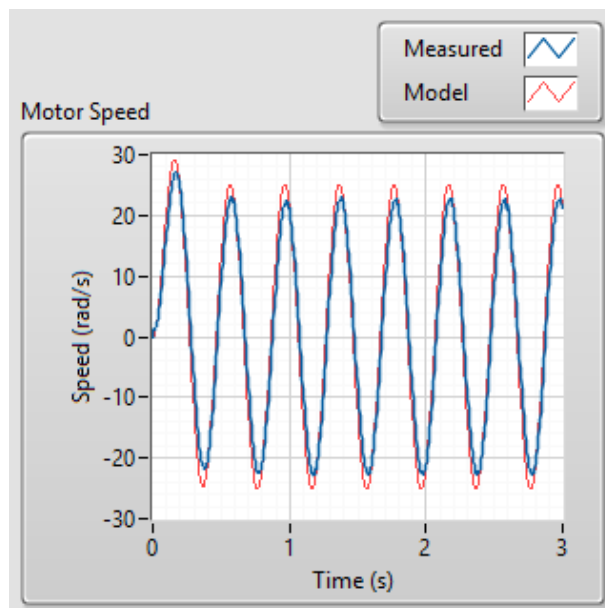

Figure 10: Sample modeled and measured responses of the DC motor
15. To validate the derived model parameters, modify the **System Model** transfer function block in **DC Motor Frequency Response.vi** using the derived values of $K_{e,f}$ and $\tau_{e,f}$. Re-run your VI and observe the measured and modeled responses. How well do they match? Take a screenshot of your results. Sample results comparing the measured and modeled responses are shown in Figure 10 using the following input parameters: